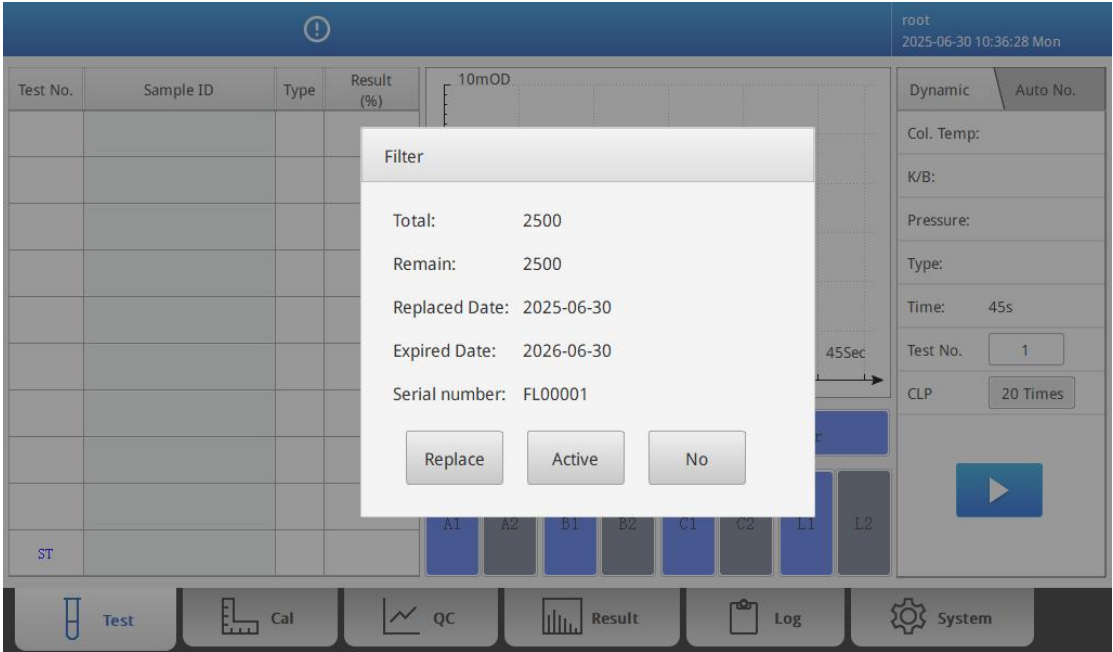

Fig 4-13 View of Filter Installation Procedure(1)
4) Enter the “**Test**” interface, press the “**Filter**” icon, a prompt will show up as **Fig 4-13**.